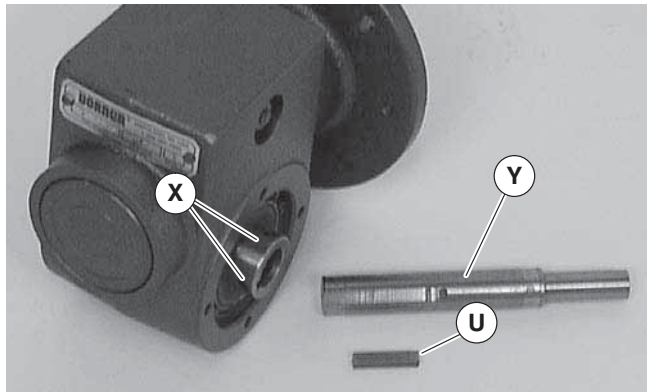

Figure 13
- Loosen set screws (Figure 13, item X) and remove gear reducer output shaft (Y) and key (U).
- Insert the new shaft (Figure 13, item Y) and key (U) into new gear reducer. Tighten set screws (X) to 35 in-lb (4 N-m).